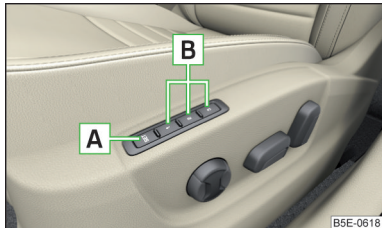

Fig. 86
Among the memory buttons **B** on the driver's seat, a setting for the driver's seat and exterior mirror position can be saved » Fig. 86.
- Press the **SET A** » Fig. 86 button and then, within 10 seconds, press the desired memory button **B**. Storing is confirmed by an acoustic signal.
- Turn on the ignition and press the desired memory button **B** » Fig. 86.